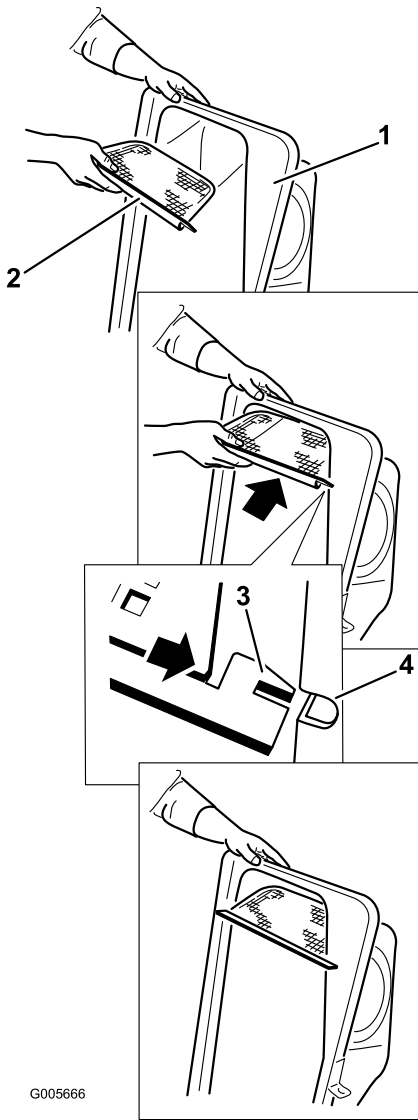

Figure 20
- 2. Install the screen as shown in Figure 20 and that it slopes down toward the collection bags.